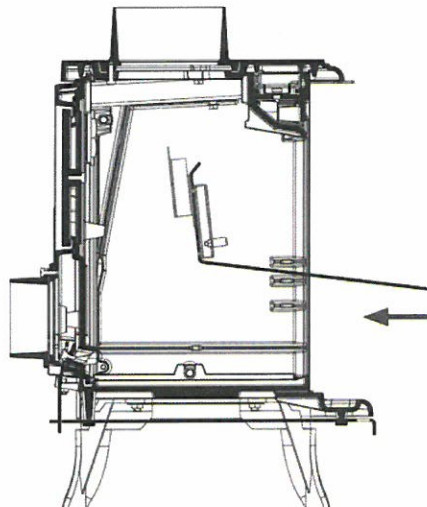

Figure 6d
- 5) See figure 6d. Push the top of the baffle upwards whilst pulling out the bottom towards the front of the stove. A screw driver may be needed to do this.